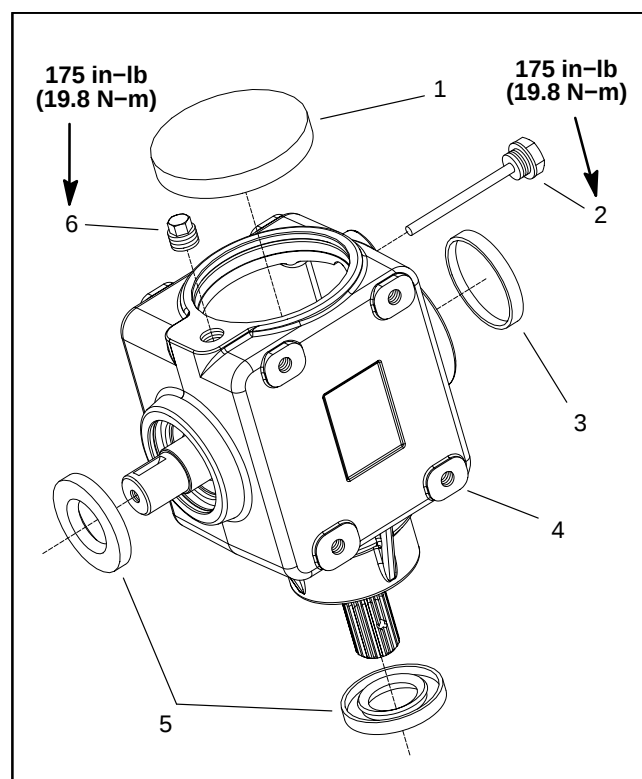

Figure 11
11. If necessary, remove and replace oil seals and oil caps in gearbox (Fig. 11).